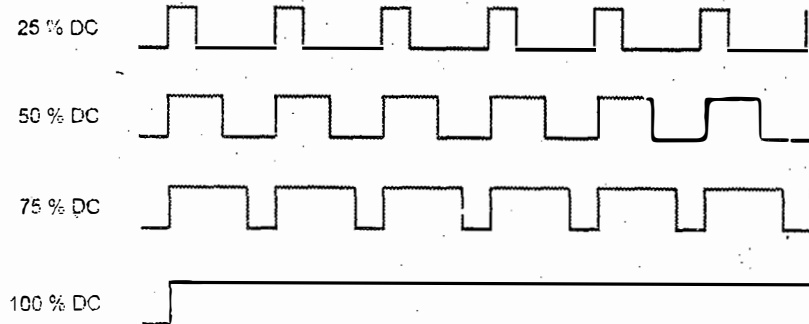

Fig Q.19.2 Duty cycle variations (Need to draw)
- To begin with the PWM mode the CCPx CON < 0:3 > bits are set to 11XX and Pin RC2/CCP1 of PORTC is set high. The required duty cycle is obtained using CCPxCON<4:5> bits according to the waveforms shown in Fig. Q.19.2. (Refer Q.19.2 on next page)